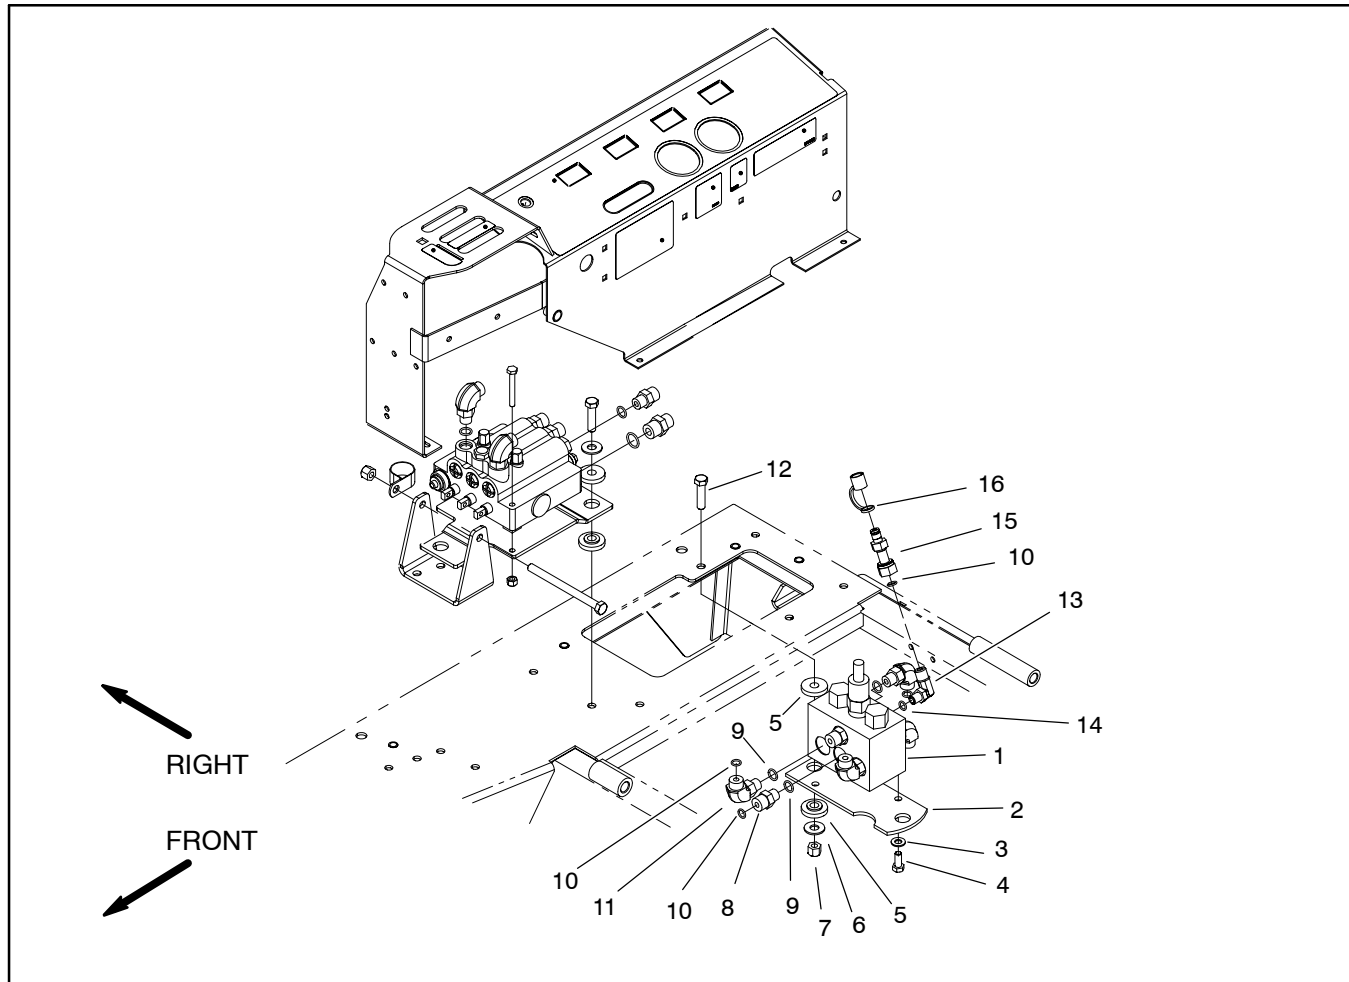

Figure 58
4. Remove hydraulic manifold from the frame using Figure 58 as guide.
1. Install hydraulic manifold to the frame using Figure 58 as guide.